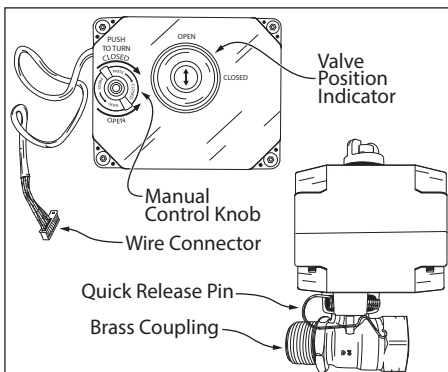

Figure 1: Cold Water Shut-off Valve
- 4 Before attempting to install the cold water shut-off valve, take a moment to note key elements of the shut-off valve. **IMPORTANT:** Ensure the valve is open prior to installation. Valve may be opened by using the manual control knob and **MUST** be open to properly fill the water heater. See Figure 1.